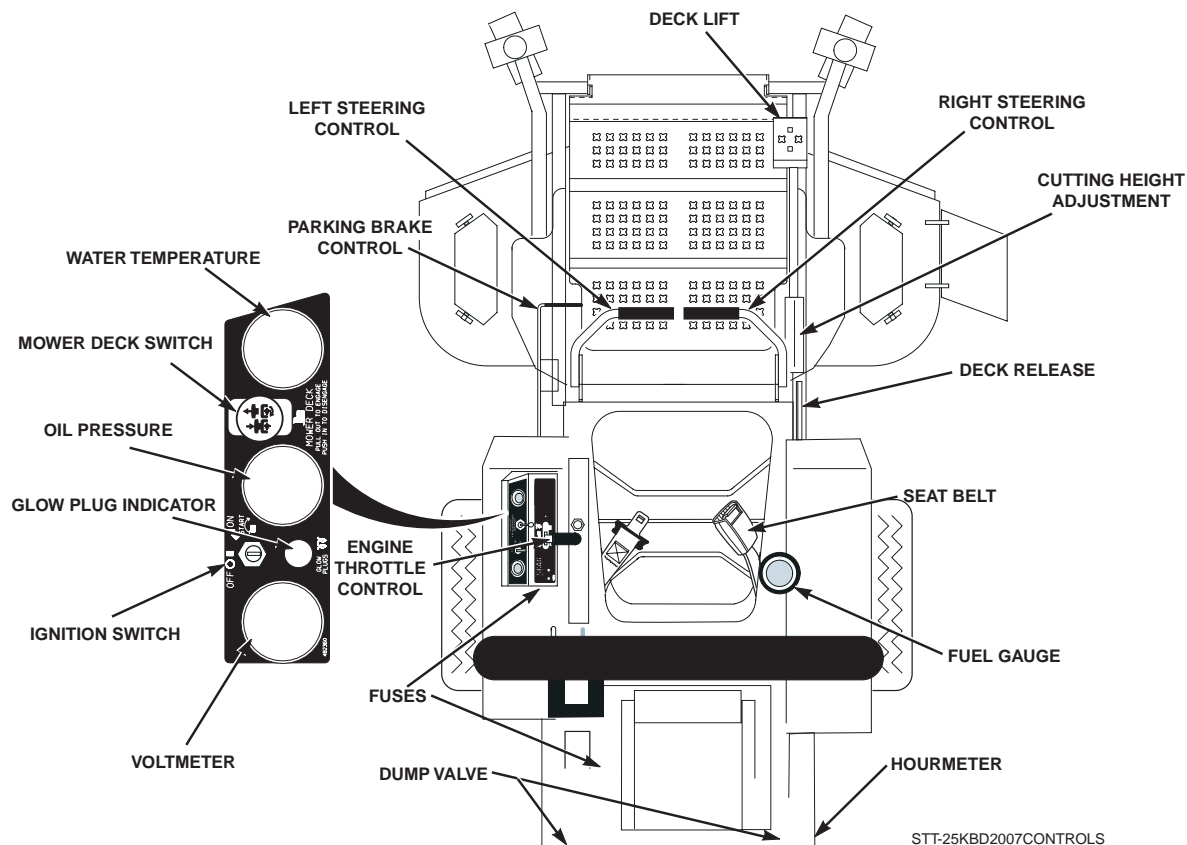

Figure 4-1. Controls and Instruments
1. **Ignition Switch (Figure 4-1).** The ignition switch is used to start the engine and has four positions; PREHEAT, OFF, ON, and START.
2. **Mower Deck Switch (Figure 4-1).** Used to engage and disengage the mower drive system. Pulling up on the switch will engage the deck drive. Pushing down on the switch will disengage the deck drive.
3. **Glow Plug Indicator (Figure 4-1).** Yellow indicator turns on when the key switch is turned to the PREHEAT position. Glow plugs must be preheated for 5 to 10 seconds before starting the engine.
4. **Engine Throttle Control (Figure 4-1).** Used to control the engine speed. Pushing the lever forward increases engine speed. Pulling the lever back decreases engine speed. Full back position is the IDLE position. Full forward is the cutting position.
5. **Voltmeter (Figure 4-1).** Indicates the condition of the charging system. When the engine is running, in normal operating conditions, the needle should be in the 12 to 14 volt range.
6. **Oil Pressure (Figure 4-1).** Indicates engine oil pressure. Reference the engine operator's manual for further information.
7. **Hour meter (Figure 4-1).** Indicates the number of hours the engine has been operated. It operates whenever the engine is running. Has preset maintenance reminders for engine and hydraulic system oil changes. Will start flashing scheduled maintenance 2 hours before preset time and continue flashing until 2 hours after. Automatically resets.
8. **Fuse Holders (Figure 4-1).** There are two 20-amp fuse and one 50-amp resettable fuse that protect the mower's electrical system. To replace fuse, pull fuse out of the socket and install a new fuse.
9. **Left Steering Control (Figure 4-1).** Used to control the mower's left wheel when traveling forward or reverse.
10. **Right Steering Control (Figure 4-1).** Used to control the mower's right wheel when traveling forward or reverse.
11. **Parking Brake Control (Figure 4-1).** Used to engage and disengage the parking brakes. Pull the lever back to engage the parking brakes. Push the lever forward to disengage the parking brakes.
12. **Fuel Tank Gauge (Figure 4-1).** Indicates the amount of fuel in the fuel tank.
14. **Deck Lift Foot Lever (Figure 4-1).** Used to raise and lower the cutter deck.
15. **Cutting Height Adjustment (Figure 4-1).** Used to set the cutter deck at the desired cutting height.
16. **Deck Release Lever (Figure 4-1).** Used to lock the cutter deck in the transport position. Push the foot pedal forward and lift up on the release lever to release the cutter deck for normal mowing.
17. **Temperature Gauge (Figure 4-1).** Indicates the operating temperature of the engine.
18. **Seat Belt (Figure 4-1).** Used to secure the operator. Seat belt must be worn at all times when the ROPS is in the upright and locked position.